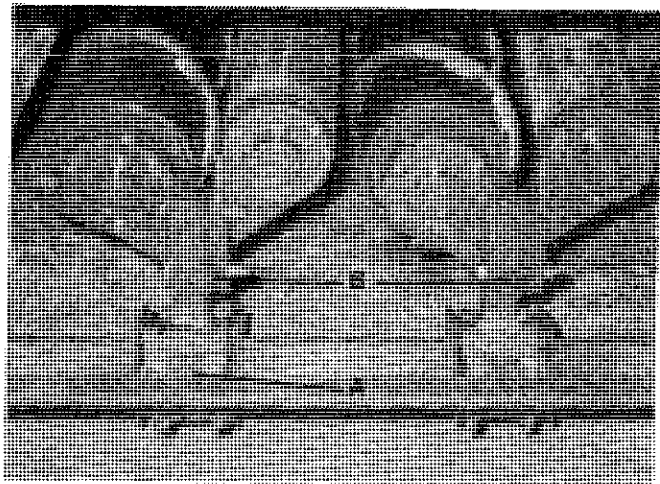

FIGURE 24 - GRAB ROLL DISCHARGE END
Protection against rock damage to the grab rolls is provided by the rubber insert (A) (see figure 24) on discharge end, allowing the grab rolls to move when rocks enter the grab roll bed.
To maximize cleaning and reduce loss, increase spacing for larger beets and reduce spacing for small beets. To adjust (see figure 24) remove spacer (B) to increase gap and add spacers to reduce the gap between rolls #1 & #2 and between rolls #3 & #4. Do not space too wide, beets could fall through grab rolls.